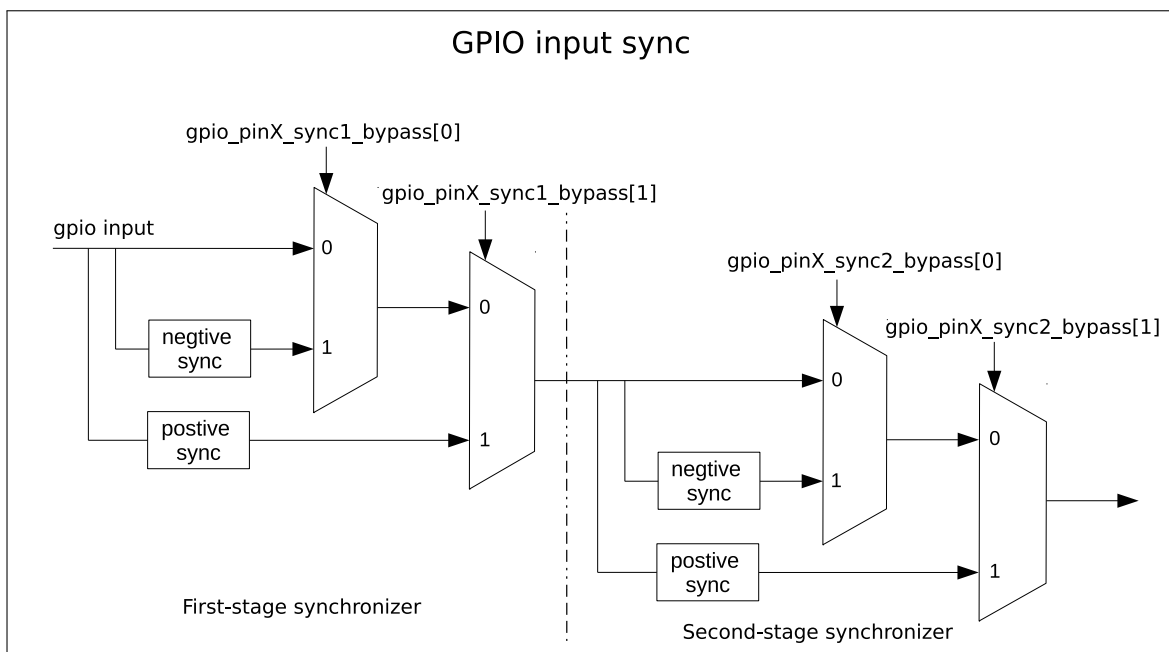

Figure 6-3. GPIO Input Synchronized on APB Clock Rising Edge or on Falling Edge
Figure 6-3 shows the functionality of GPIO SYNC. In the figure, negative sync and positive sync mean GPIO input is synchronized on APB clock falling edge and on APB clock rising edge, respectively.
- Set `GPIO_PIN x _SYNC1_BYPASS` to enable input signal synchronized on rising edge or on falling edge in the first clock, see Figure 6-3.
- Set GPIO_PIN \$x\$ _SYNC2_BYPASS to enable input signal synchronized on rising edge or on falling edge in the second clock, see Figure 6-3.